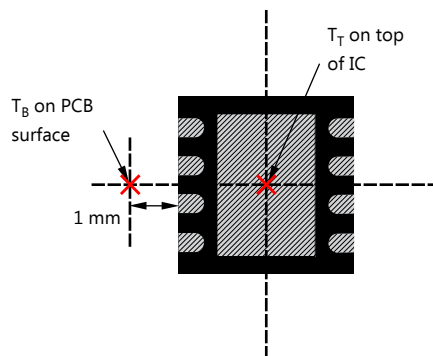

Figure 24. Measuring Points for T_T and T_B
- T_B is the PCB temperature measured 1 mm away from the device package on the PCB surface (as shown in Figure 24). (5)